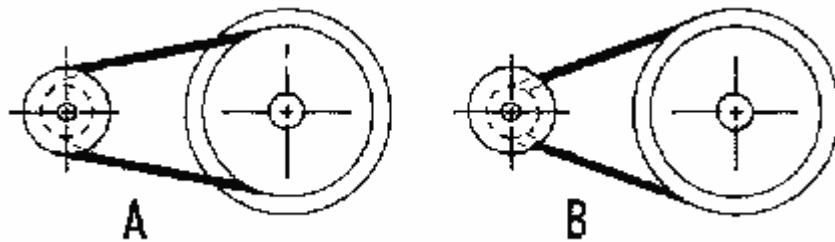

FIGURE 11-The two pulley positions. Position A is the conventional setting, position B offers more torque at low RPM. (Seen from pulley end of headstock.)
- belt is routed properly. Then secure the cover with (2) 1-3/8" pan head screws which go into nuts pressed into the back of the inner belt guard.
6. Place drive belt over spindle pulley and insert 10-32 x 3/4" socket head screws (with 2 washers on each) through motor mount slot and into holes in the ends of the motor standoffs. (These standoff ends should be exposed through locating holes in the outer belt guard.) NOTE: The normal operating position for the drive belt is on the large diameter groove on the motor pulley and the small diameter groove on the spindle pulley. Use of the other (low RPM) position is discussed elsewhere in these instructions. (See Figure 11.)